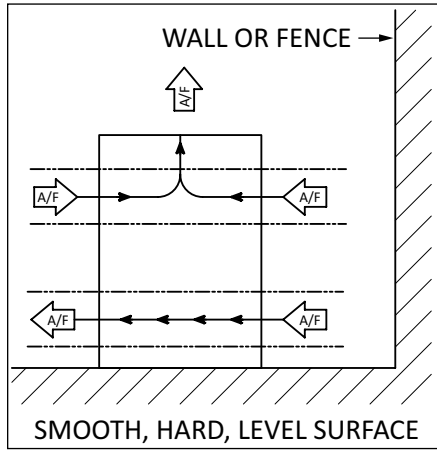
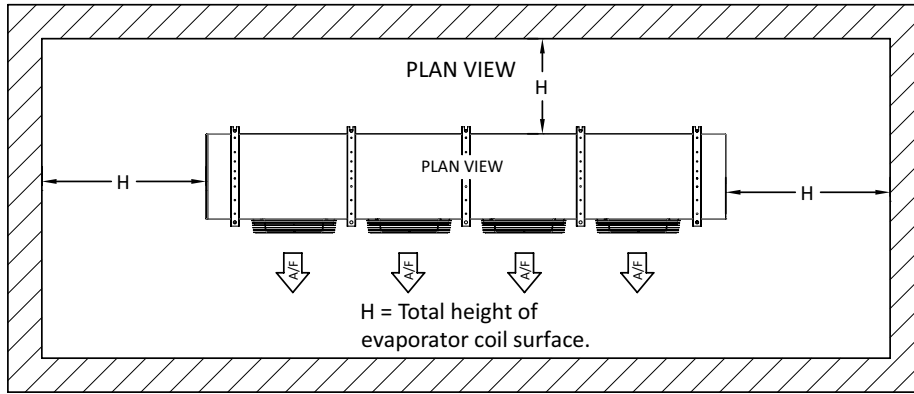

Figure 2A
Figure 3A ONE EVAPORATOR
- D. Adequate area (approx. 1 unit width) must be provided around equipment for unrestricted air flow and service. Two units side by side should have a minimum of 1 1/2 unit width between them. See Figures 2A through 2E and Figures 3A through 3D.